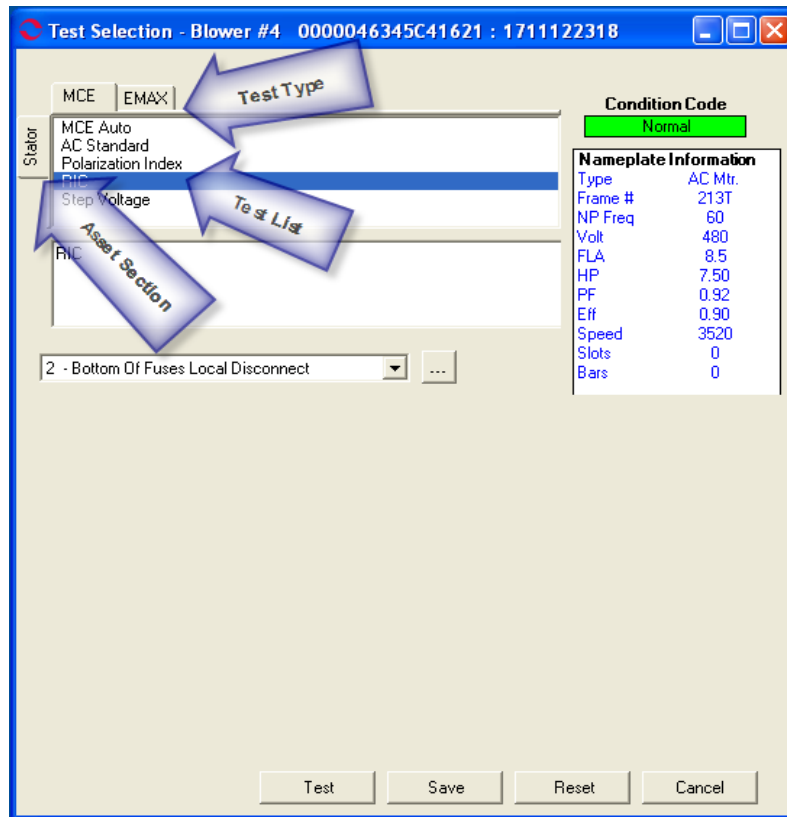

Figure 5-22: Test Selection Window
7. Select the Test Selection icon  on the toolbar. The Test Selection window opens, Figure 5-22.